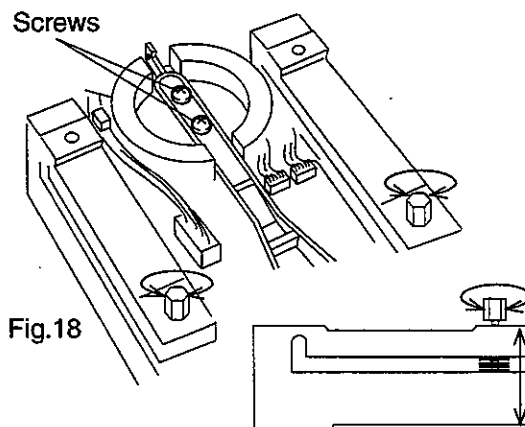

Fig.18
- Step 1. Adjust the depth to  $39 \text{ mm} \pm 0.05 \text{ mm}$  between upper and lower flexure assy. Loosen the two screws holding the bobbin. Insert the beam, with the bobbin loosely attached, into place. (Fig 18).
- Step 3. Adjust the bobbin position so that it does not touch the magnet or the sides of the well, then tighten the screws. (Fig 18)